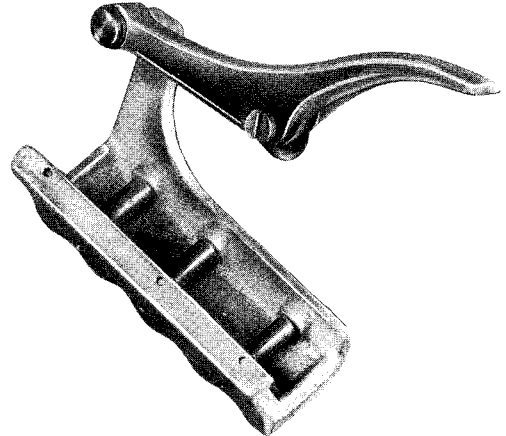

Fig. 1—B Innerduct/Cable Splitter
**2.01** The B innerduct/cable splitter (Fig. 1) utilizes a thin disc cutter designed to cut innerduct. The handle of the innerduct/cable splitter is coated with red plastic to distinguish the B innerduct/cable splitter from the B cable sheath splitter.